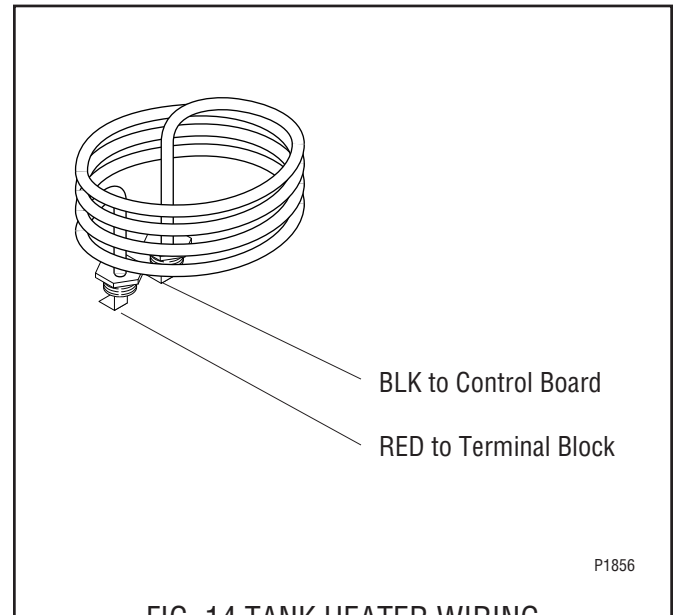

FIG. 14 TANK HEATER WIRING
28. Refer to FIG. 14 when reconnecting the tank heater wires.